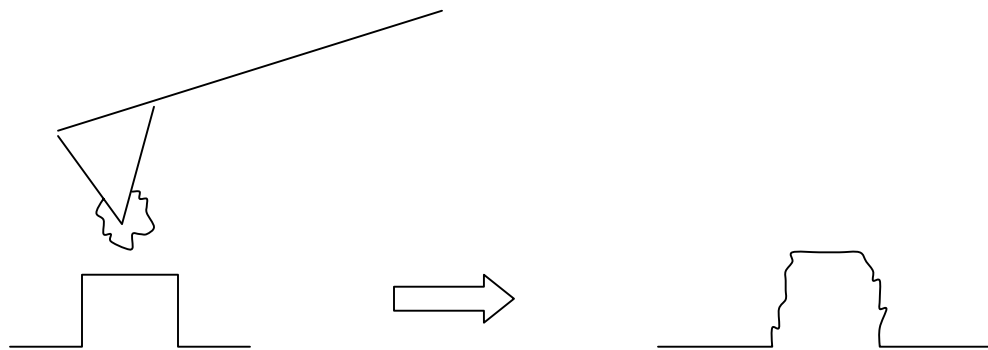

Fig. 4.4 Schematic showing the effect of a dirty tip on imaging
- There may be a similar artifact introduced because of a dirty tip and is illustrated schematically in Fig. 4.4 below.